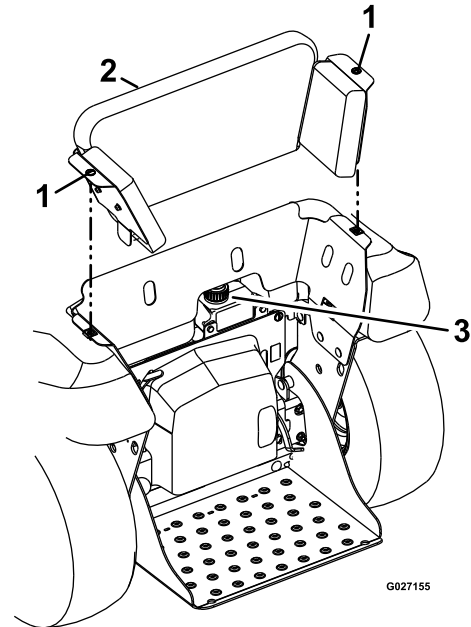

Figure 90
2. Rotate counterclockwise the 2 quarter-turn fasteners that secure the knee pad to the chassis of the machine (Figure 90).
3. Lift the knee pad up and rearward slightly and remove the pad from the machine (Figure 90).
4. Clean area around fluid-expansion tank and remove cap (Figure 90).
7. Install the tank cap onto the expansion tank and tighten the cap until it is snug (Figure 90).